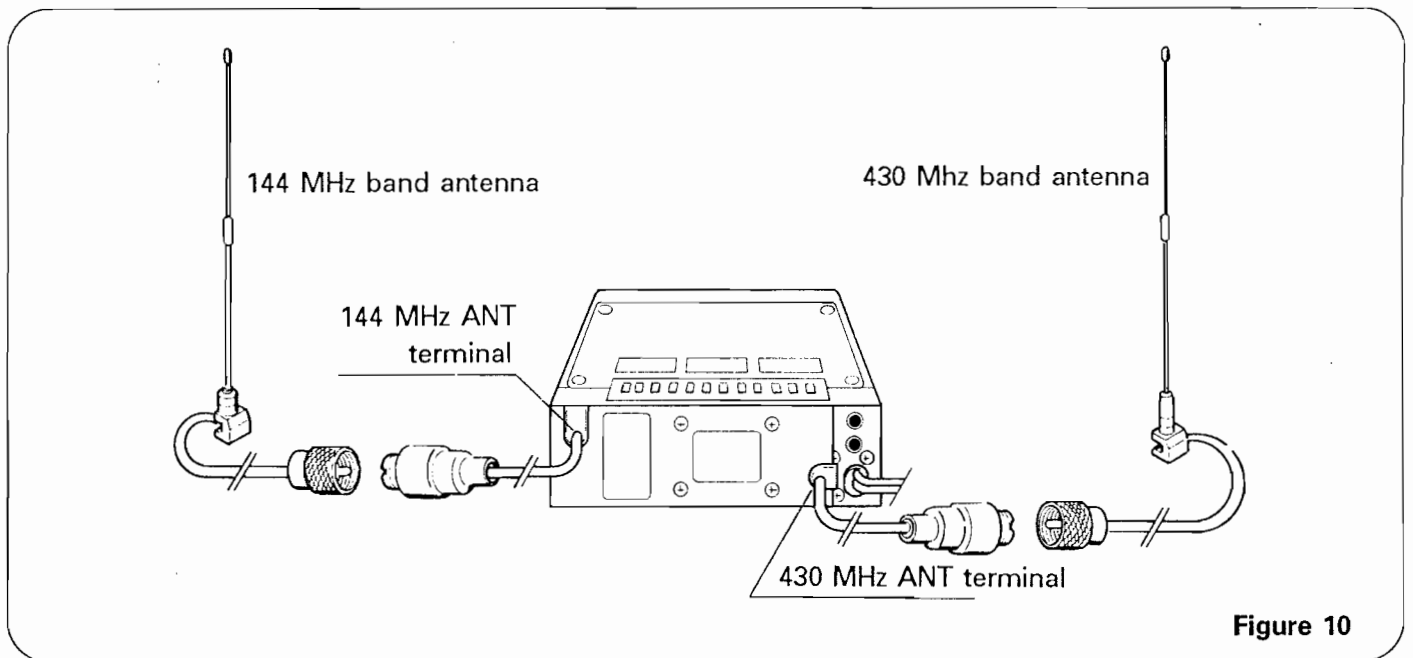

Figure 10
### ① When connecting to independent antenna (Figure 10)
- ① Connect to the 144 MHz band coaxial cable of this unit its corresponding coaxial cable running from the 144 MHz band antenna.
- ② Connect to the 430 MHz band coaxial cable of this unit its corresponding coaxial cable running from the 430 MHz band antenna.